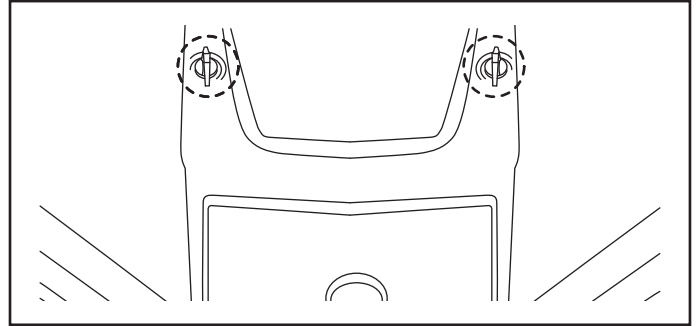

Figure 1. Hood removal
1. Turn hood latches and remove hood. See figure 1.